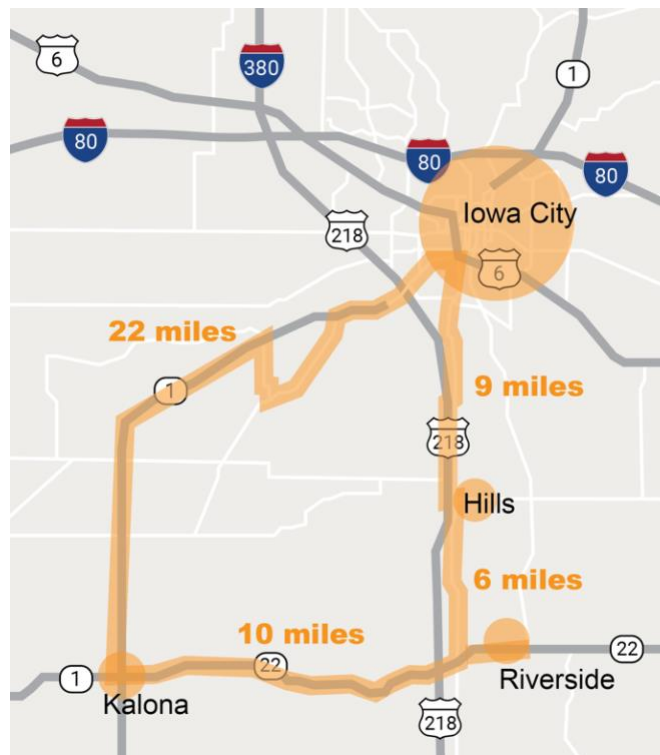

Figure 1: ADS for Rural America map
- Figure 1. ADS for Rural America map1
ADS for Rural America will take place in Eastern Iowa, a region representative of much of rural America with its variable seasons, rural roads, and roadway hazards. The project will drive in a loop from a mid-sized city (Iowa City) through rural areas and small towns, providing an example for how ADS can connect rural populations (Figure 1). With a focus on connecting rural transportation-challenged populations like the rapidly growing aging sector, ADS for Rural America will utilize a custom, mobility-friendly ADS built on a commercially available platform.